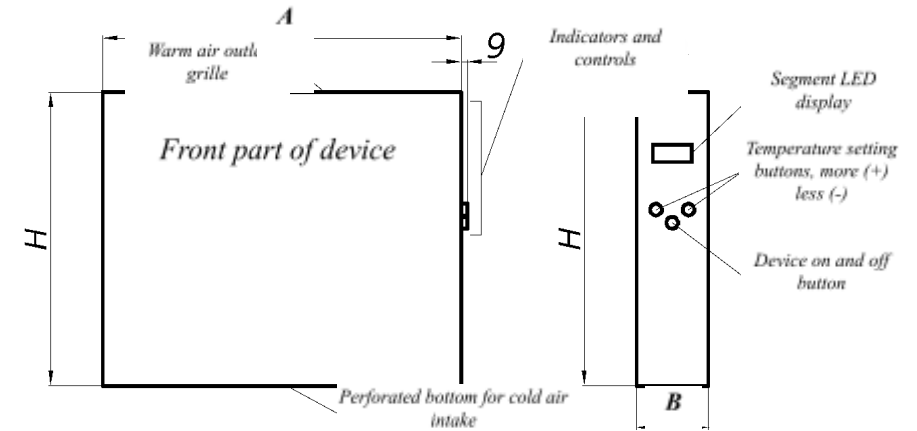

Fig. 1
The electric convector EXP 2(E) is supplied assembled. A variant of the product appearance is shown in Fig.1.
- 4.5. Apply power to the convector by pressing the convector power button. The temperature is set using the "More" or "Less" buttons. The convector is switched off by pressing the convector on/off button again. The control panel is shown in Fig. 1.